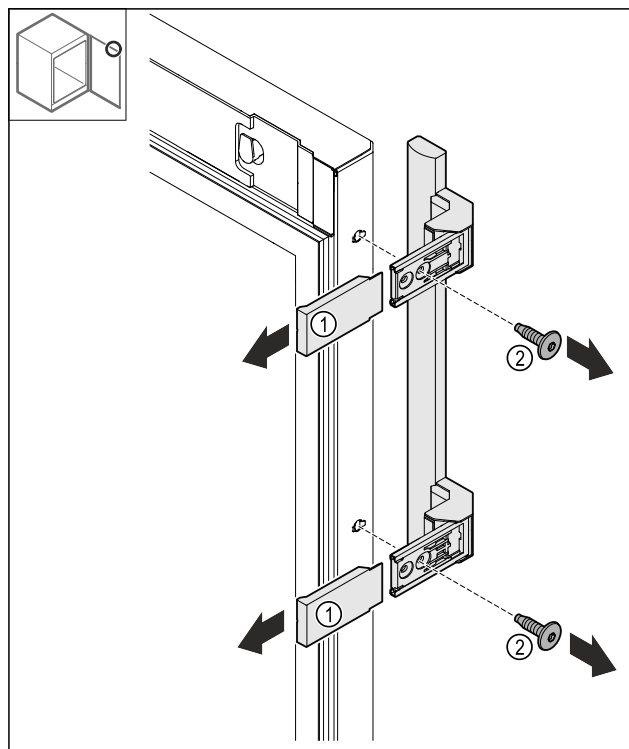

Fig. 21
- Remove the covers Fig. 21 (1).
- Loosen the screws Fig. 21 (2).